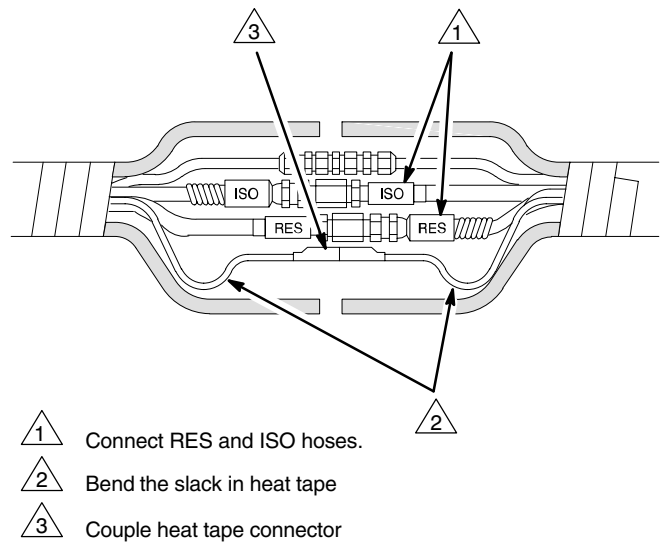

Fig. 1
The fluid hoses are marked ISO or RES and are oppositely coupled to prevent incorrect connection, which can cause fluid crossover and permanently damage the hose. Refer to Fig. 1.
1. Connect the corresponding fluid hoses of each 50 foot (15.2 m) assembly. See Fig. 1.
2. Gently bend the slack in the heat tape on both sides of the tape connectors as shown in Fig. 1.